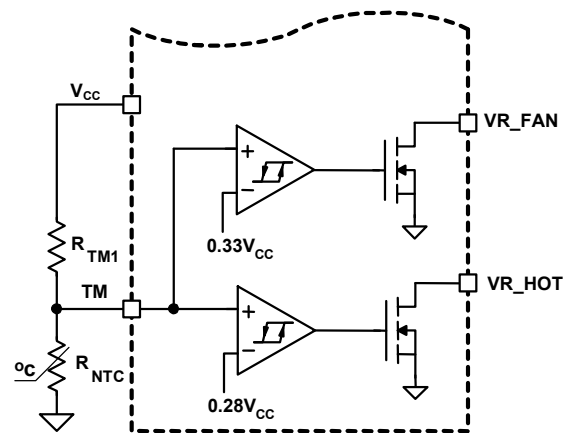
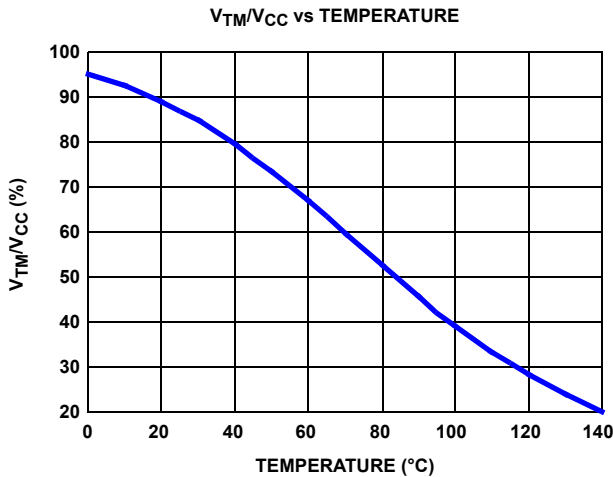

FIGURE 14. BLOCK DIAGRAM OF THERMAL MONITORING FUNCTION
FIGURE 15. THE RATIO OF TM VOLTAGE TO NTC TEMPERATURE WITH RECOMMENDED PARTS
The diagram of thermal monitoring function block is shown in Figure 14. One NTC resistor should be placed close to the power stage of the voltage regulator to sense the operational temperature, and one pull-up resistor is needed to form the voltage divider for TM pin. As the temperature of the power stage increases, the resistance of the NTC will reduce, resulting in the reduced voltage at TM pin. Figure 15 shows the TM voltage over the temperature for a typical design with a recommended  $6.8\text{k}\Omega$  NTC (P/N: NTHS0805N02N6801 from Vishay) and  $1\text{k}\Omega$  resistor RTM1. We recommend using those resistors for the accurate temperature compensation.
Based on VCC voltage, ISL6306 converts the TM pin voltage to a 6-bit TM digital signal for temperature compensation. With the non-linear A/D converter of ISL6306, TM digital signal is linearly proportional to the NTC temperature. For accurate temperature compensation, the ratio of the TM voltage to the NTC temperature of the practical design should be similar to that in Figure 15.
1. Properly choose the voltage divider for TM pin to match the TM voltage  $V_S$  temperature curve with the recommended curve in Figure 15.